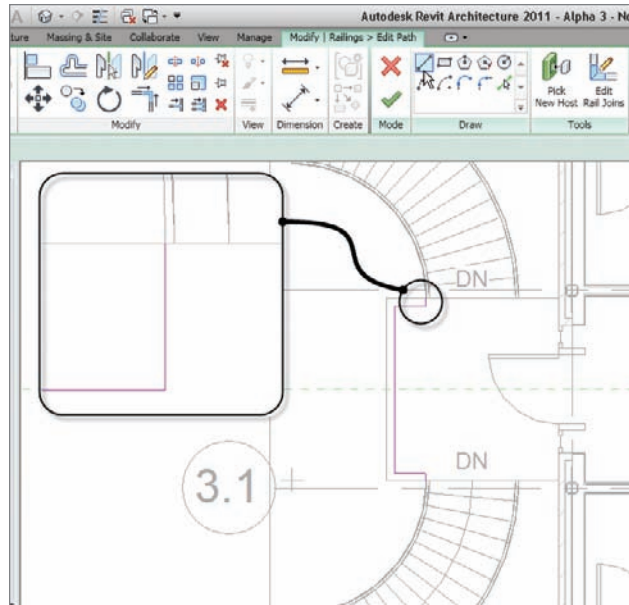

FIGURE 10.53 Connecting the landing railing to the stair railing
6. Once the offsets are complete, click the Line icon on the Draw panel, as shown in Figure 10.53.
8. Draw the lines extending from the stair railing to the landing railing, as shown in Figure 10.53.
9. Trim the corners so your railings look like Figure 10.53.